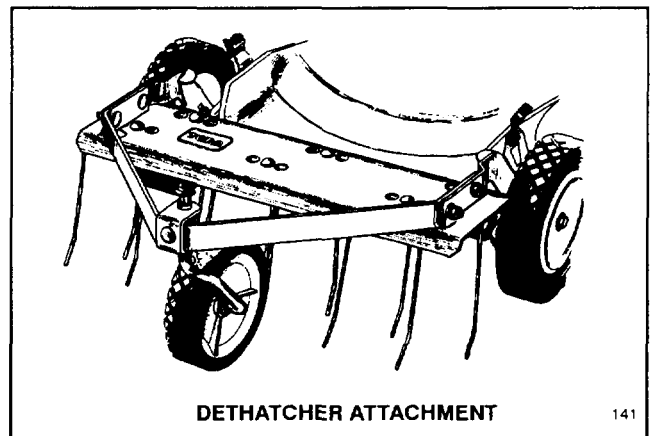

Figure 35
3. **Dethatcher Kit, Model No. 59131**—As spring tines on the Toro Dethatcher (Fig. 35) scratch and vibrate through the grass, thatch is loosened and cut by the mower.